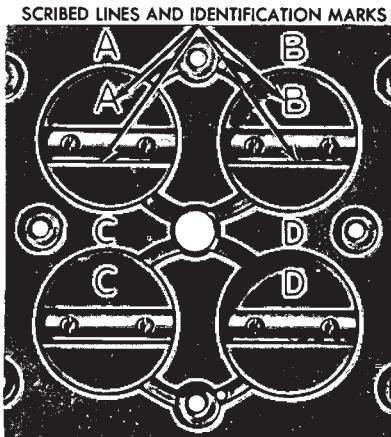

FIG. 15—Throttle Plate Removal
- If it is necessary to remove the throttle plates, lightly scribe the throttle plates along the throttle shaft, and mark each plate and its corresponding bore with a number or letter for proper installation (Fig. 15). Remove the throttle plates. The retaining screws are staked to the throttle shaft. If the tips of the screws are flared excessively, file off the flared portion to avoid damage to the threads in the throttle shaft. Be careful not to damage the throttle shaft or venturi while filing the screws.
return spring from the notch on the throttle shaft lever (Fig. 15). Slide the primary throttle lever and shaft assembly out of the throttle body. If necessary remove the accelerating pump cam.